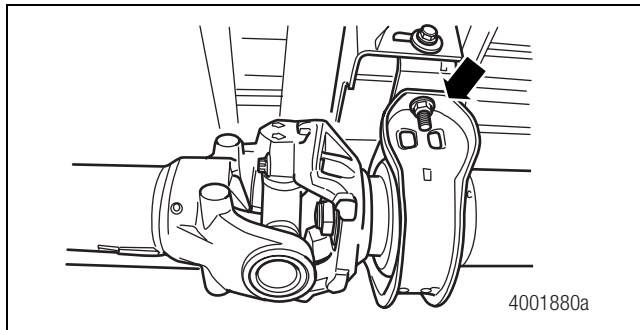

Figure 4.11
2. Inspect the center bearing bracket bolts for looseness. Figure 4.11.